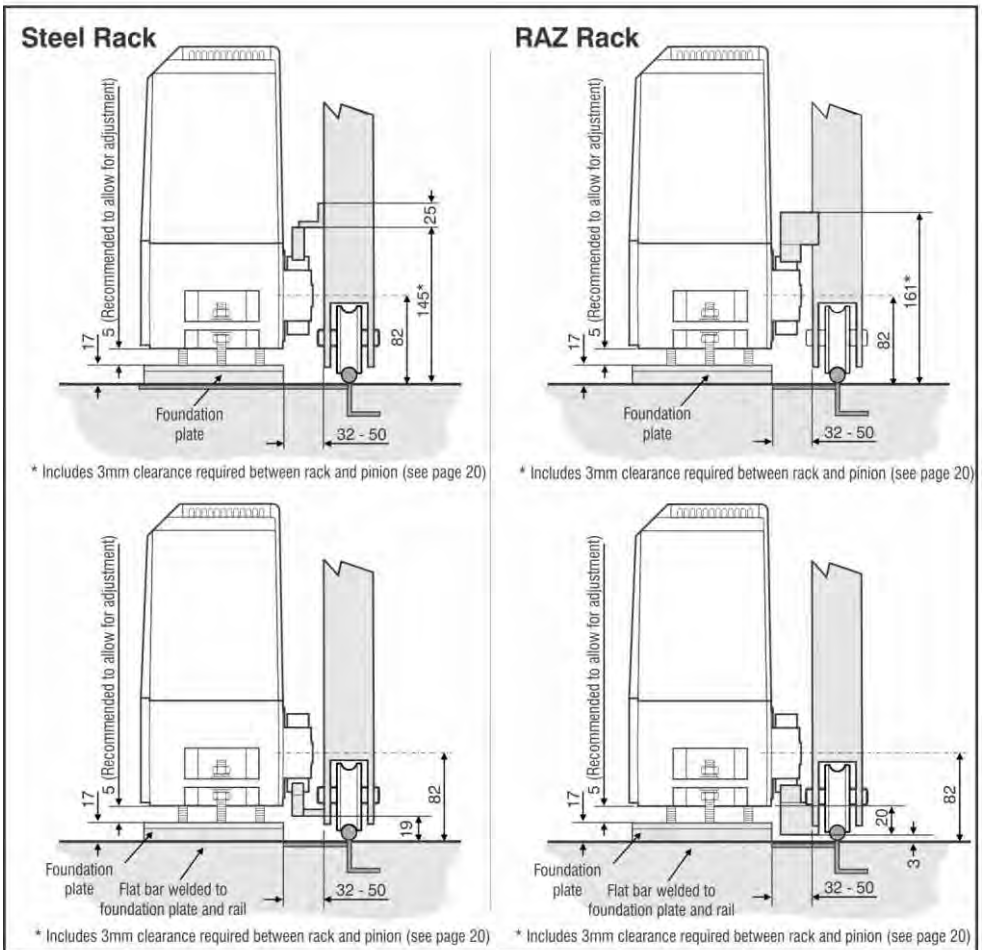

Figure 9 Operator Position
2. Determine a suitable position and vertical height for the operator by considering Figures 9, and 10.